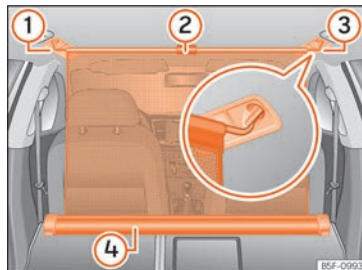

Fig. 182 In the boot: net partition hooked into the rear seat backrests.
- Pull up handle »» Fig. 182 ② to remove the net from the casing »» Fig. 182 ④.
- Hook in the net partition on the right side »» Fig. 182 ③ (magnified image).
- Hook in the net partition in the left side housing »» Fig. 182 ① pulling the rod.
The net partition is properly assembled when the T-shaped ends are firmly secured in the corresponding housings »» Fig. 182 ③ and ①.
- Roll up the net into the casing »» Fig. 182 ④ lowering it with your hand.